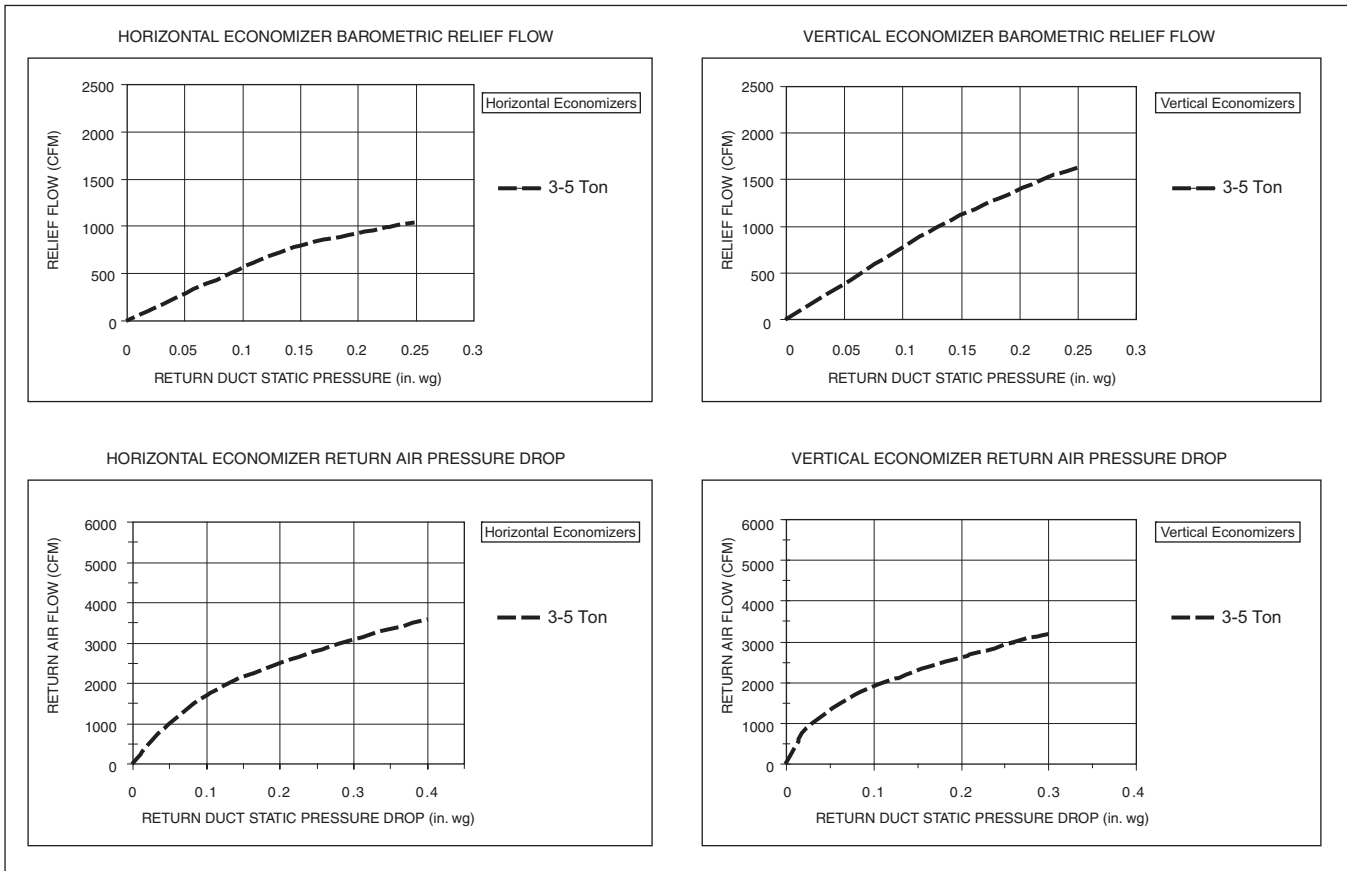

Fig. 60 — Outdoor-Air Damper Leakage
The standard controller is shipped from the factory configured for outdoor dry bulb changeover control. For this control mode, the outdoor temperature is compared to a selectable set point on the OAT sensor. If the outdoor air temperature is above the set point, the EconoMiSer IV will adjust the outdoor air dampers to minimum position. If the outdoor air temperature is below the set point, the position of the outdoor air dampers will be controlled to provide free cooling using outdoor air. When in this mode, the Free Cool LED next to the outdoor enthalpy set point (ABCD) potentiometer will be on. The changeover temperature set point is controlled by the dip switches on the sensor. See Fig. 59 for the switch positions corresponding to the temperature changeover values. The ABCD potentiometer on the controller should be turned fully clockwise (CW) to the “D” position. See Fig. 60 for damper leakage.